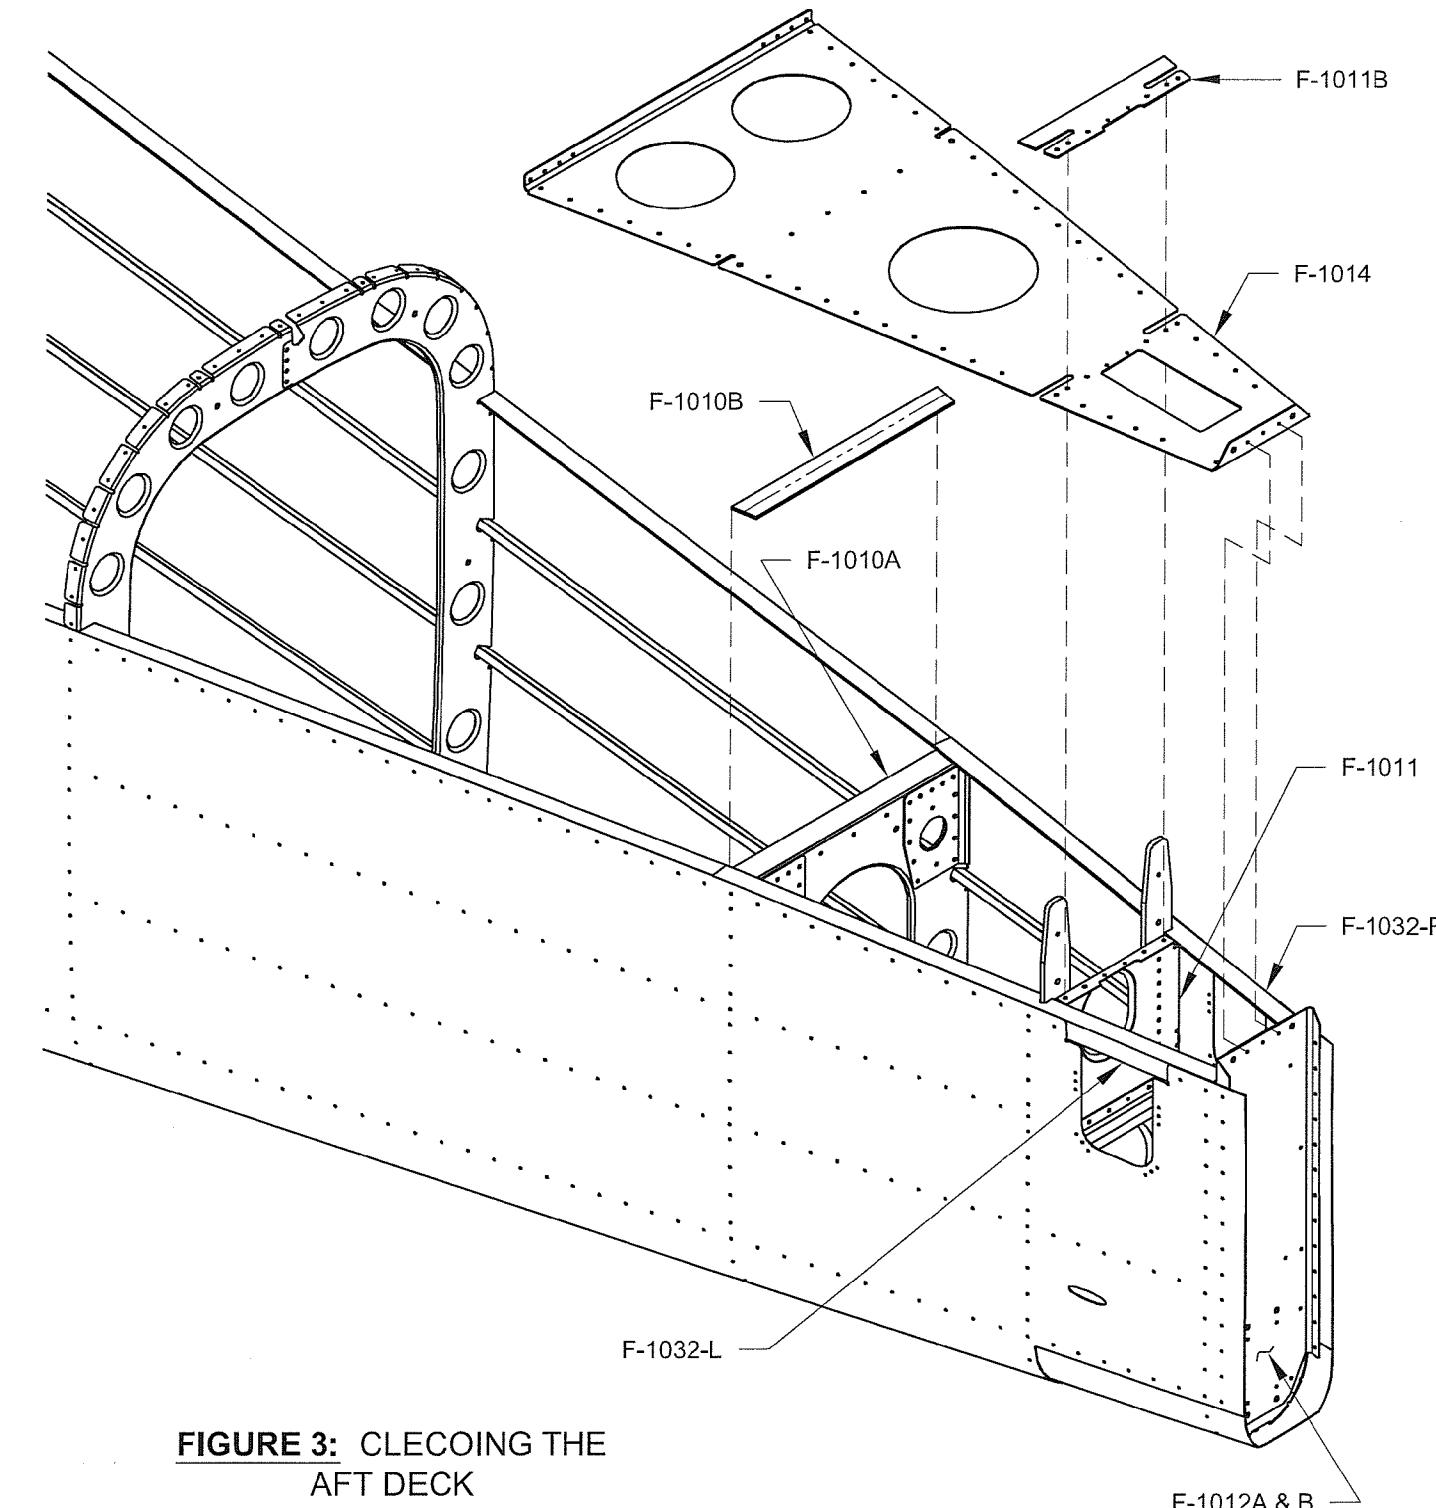

**FIGURE 2: F-1010B SPACER**
Step 3: Make the F-1010B Spacer out of a piece of AS3-125 x 1.000 using the dimensions in Figure 2. Draw a line down the middle of the part as shown in the Figure 2.